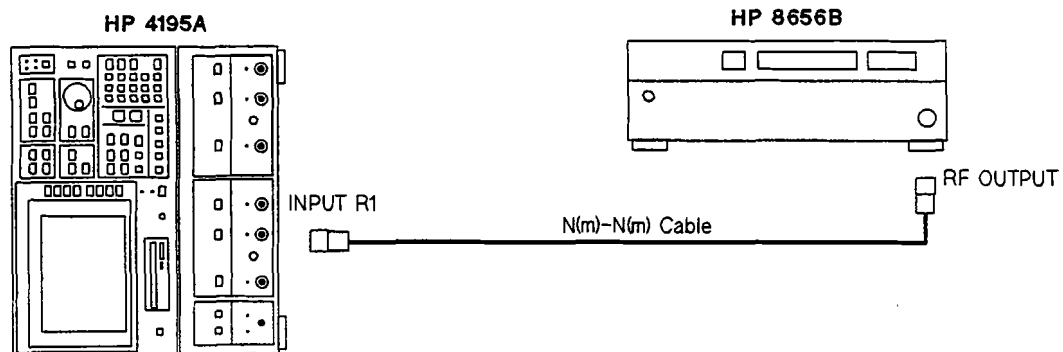

Figure 3-49. AC Overload Detector Adjustment Setup
1. Position the HP 4195A on its left side as shown in Figure 3-49.
3. Connect the equipment as shown in Figure 3-49.
1. Position the HP 4195A on its left side as shown in Figure 3-49, paragraph 3-14-1.